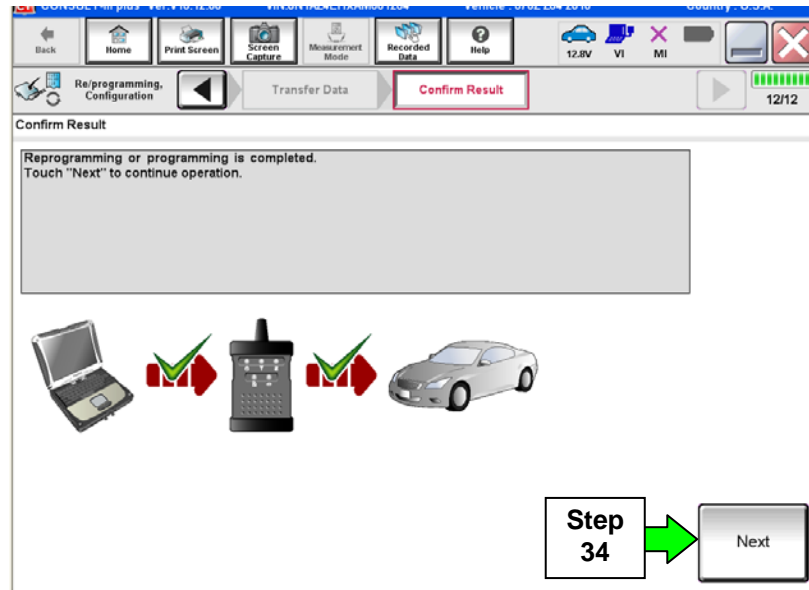

Figure 20
32. When the screen in Figure 20 displays, the reprogramming is complete.
**NOTE:** If the screen in Figure 20 does not display (reprogramming does not complete), refer to the information on page 17-19.